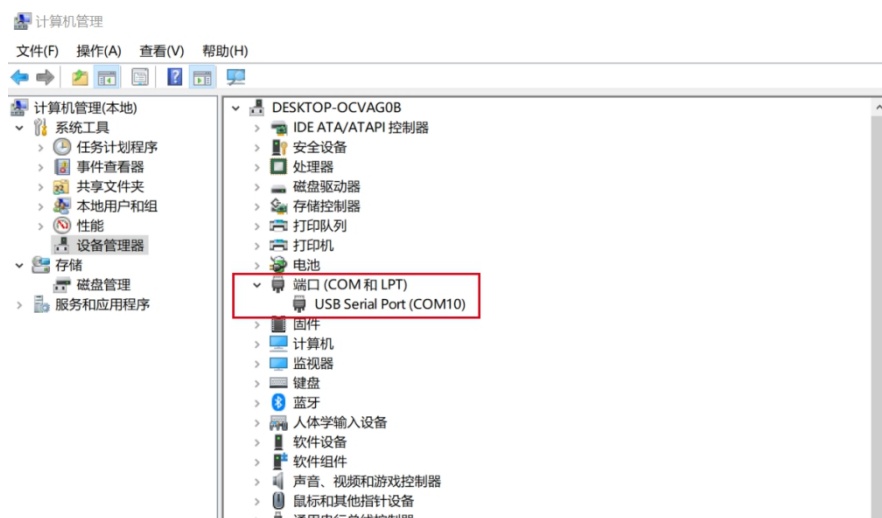

Fig 3.2.1
(1) Software installation: Win7 / Win8 / Win8.1 / Win10 system
(2) Connection: connect the data cables or wireless data transmission. USB cable connects to your computer.
(3) Driver Debugging: Right click “My Computer” to “Computer management”, click “Device Manager”. User can find “USB Serial Port (COM XX)” which indicates driver has been installed automatically, as shown in Fig. 3.2.1